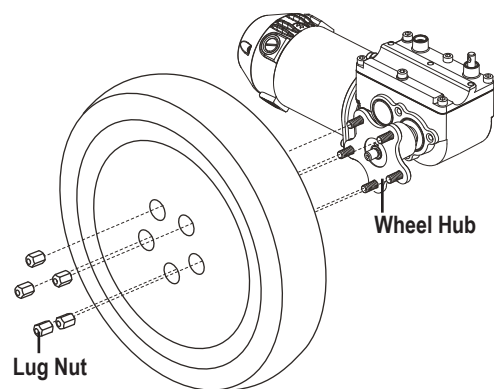

Figure 12. Drive Wheel with Five Lug Nuts
4. Remove the hubcap, if equipped, then remove the three (3) or five (5) lug nuts from the wheel hub. **See figure 12 or 13.**